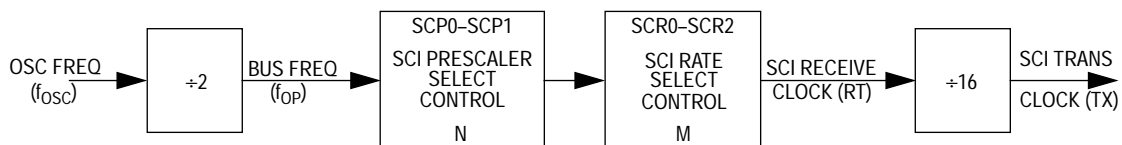

Figure 9-2. Rate Generator Division
interrupts are enabled). The transfer of data to the transmit data shift register is synchronized with the bit rate clock (see Figure 9-2). All data is transmitted least significant bit first. Upon completion of data transmission, the transmission complete flag (TC) in the SCSR is set (provided no pending data, preamble, or break is to be sent) and an interrupt is generated (if the transmit complete interrupt is enabled). If the transmitter is disabled, and the data, preamble, or break (in the transmit data shift register) has been sent, the TC bit will be set also. This will also generate an interrupt if the transmission complete interrupt enable bit (TCIE) is set. If the transmitter is disabled during a transmission, the character being transmitted will be completed before the transmitter gives up control of the TDO pin.